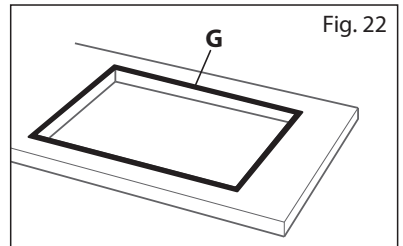

Fig. 22
- Models in figs. 1, 3: stretch gasket “G” over the edge of the hole made, being careful to overlay the junction edges (fig. 22).